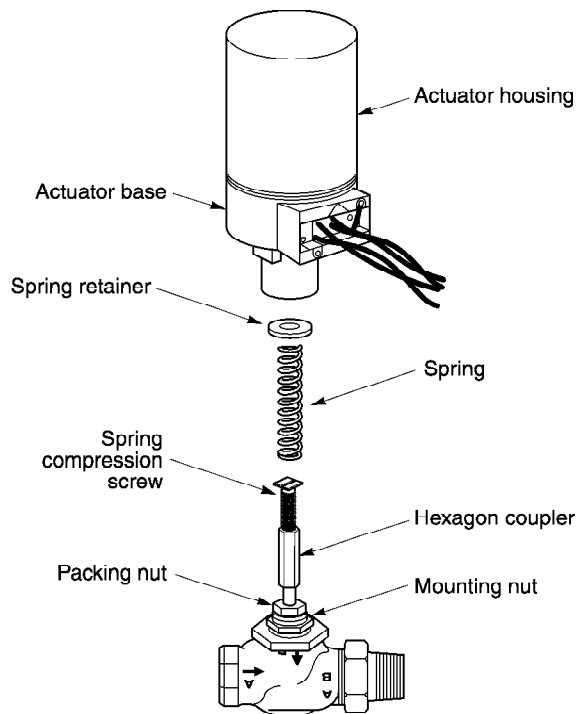

Figure-3 Assembly of AV-600 Linkage Kit onto VB-7XXX Series Valve.
8. Center the spring on top and bottom to assure smooth actuator operation. See Figure-3 for total assembly components required.